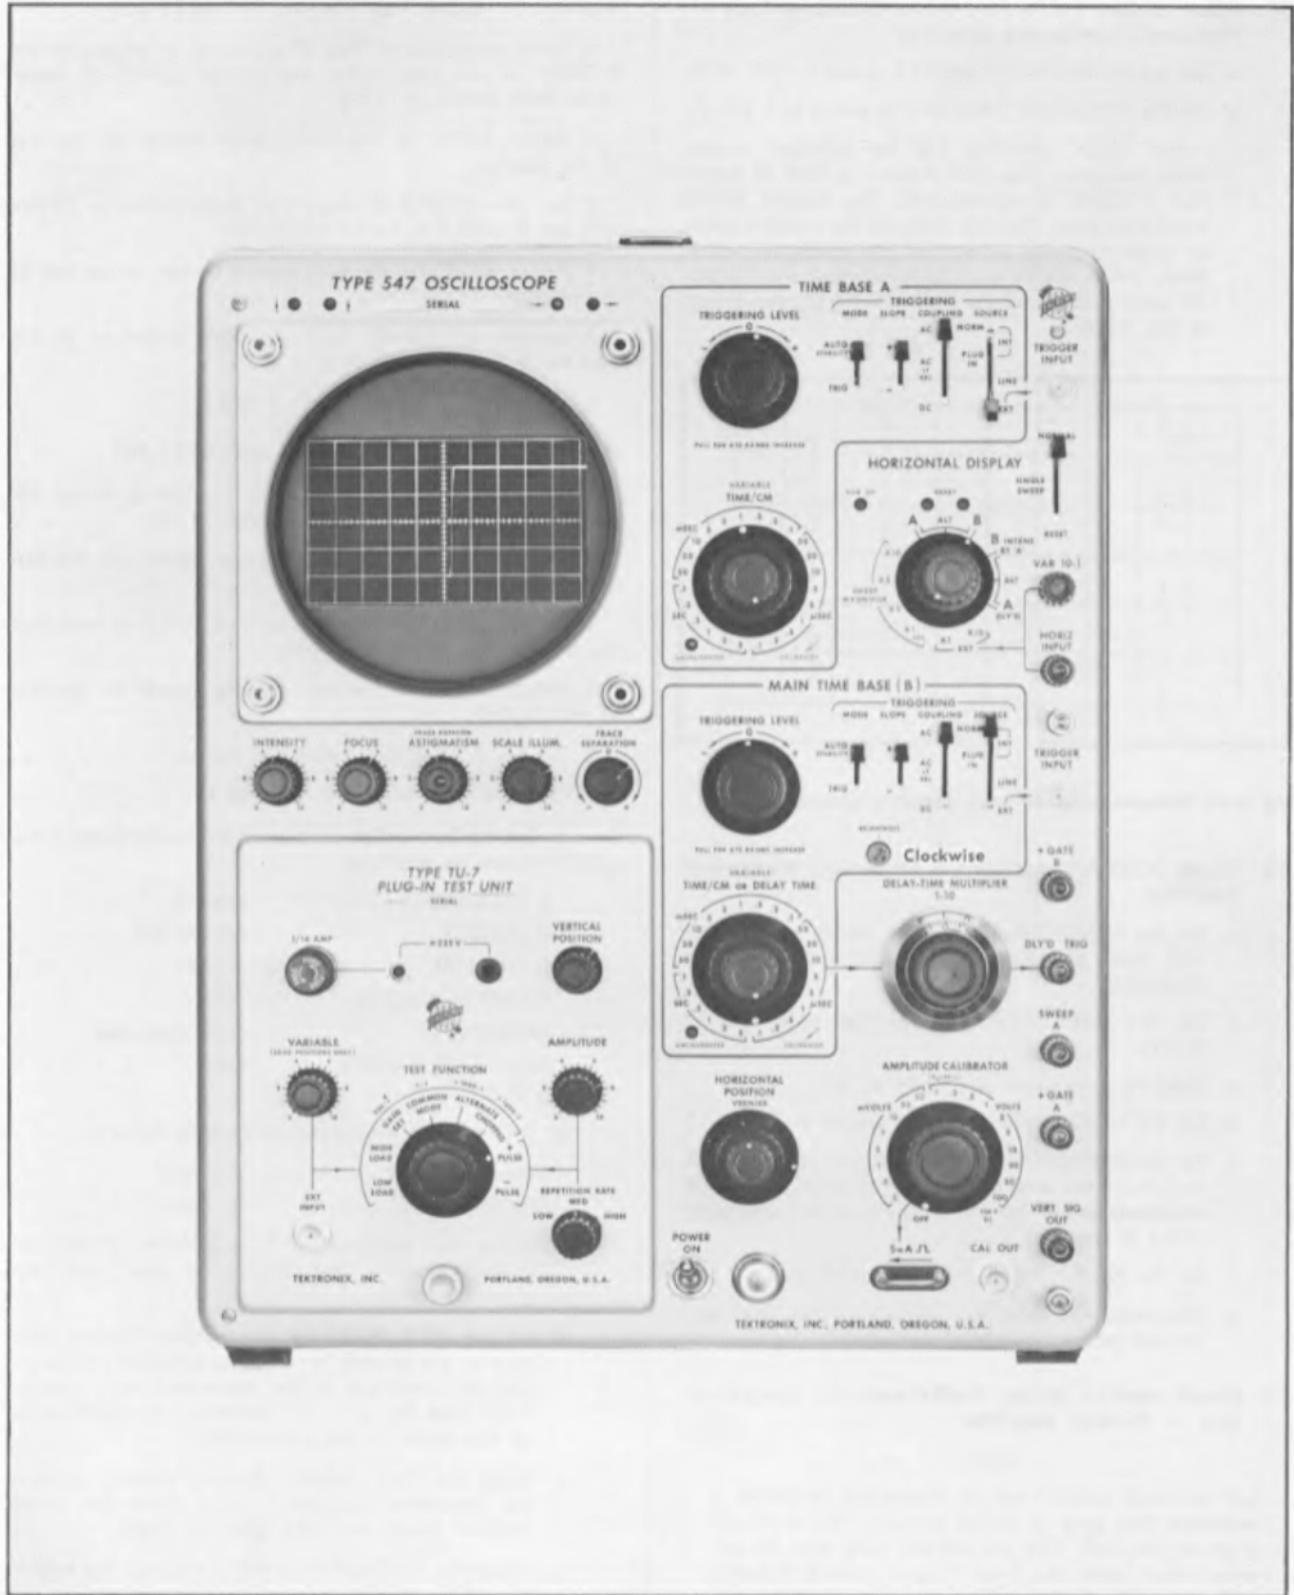

Fig. 5-17. Front-panel control settings at the completion of step 59d.
- d. Set the TU-7 Amplitude and Vertical Position controls so the display is vertically centered on the crt and the amplitude of the step-waveform is exactly 4 cm. (See Fig. 5-17 for complete front-panel setup at this point in the procedure.)